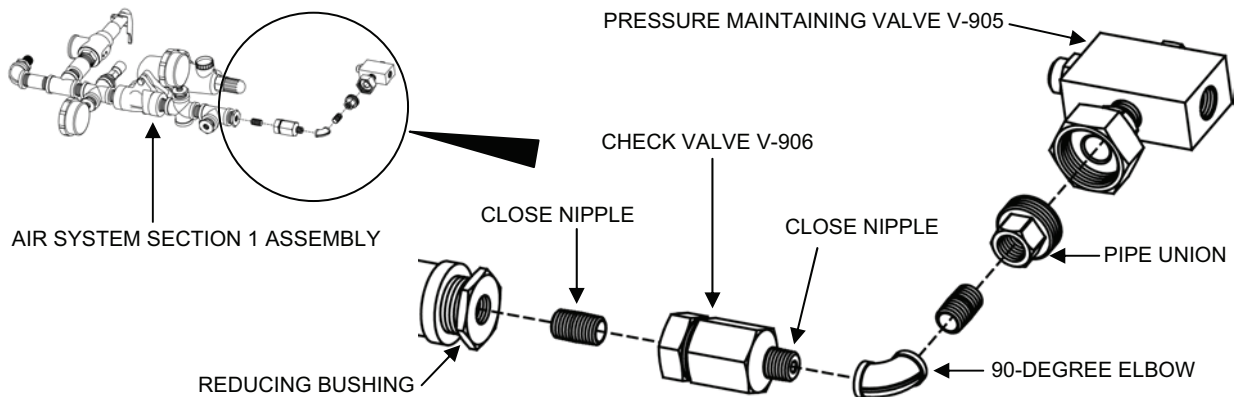

Figure 8. Low-Pressure Check Valve V-906.
3. Remove Low-Pressure Check Valve V-906 from the Air System Section 1 assembly as follows (see Figure 8):
5. Install new Check Valve V-906 onto the Air System Section 1 assembly as follows (see Figure 8):
Make sure the direction of flow for the Check Valve is correct. See Figure 8 for correct positioning of the Check Valve. Care must be taken not over-tighten. Loosening the connection once tightened could cause the connection to leak.
- b. Thread the 1/4-in., 90-degree elbow onto the other close nipple on the check valve and tighten. Make sure that the position of the 1/4-in., 90-degree elbow matches Figure 8.